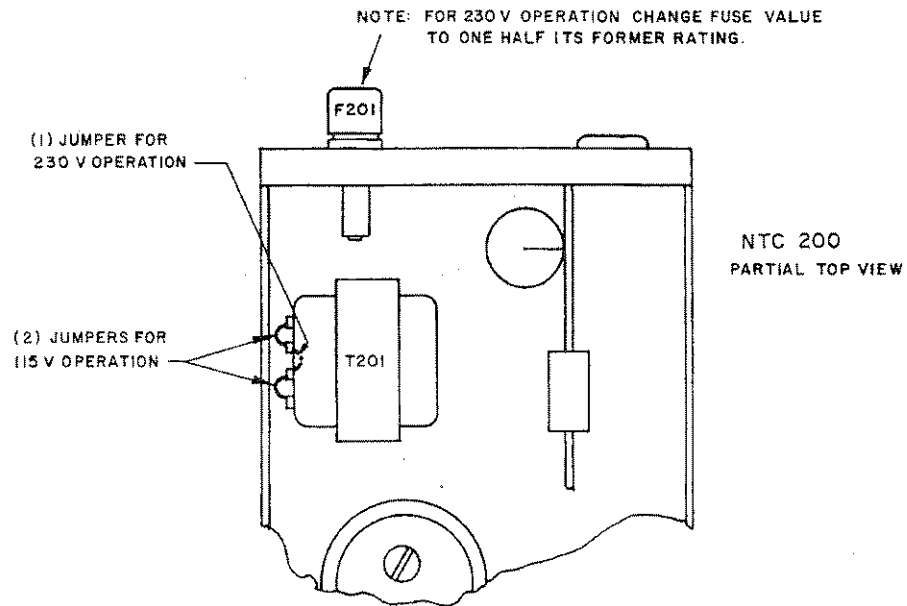

FIG. 2-4 TRANSFORMER CONNECTIONS FOR 115V A-C AND 230V A-C OPERATION.
- 2-5 The Kepco NTC Power Supply-Programmer is normally delivered for operation on a single phase, 105 to 125V a-c line, 50 to 65 Hz. For operation on 210 to 250V lines, the jumper connections on the main transformer (T201) must be changed as shown in FIG. 2-4.